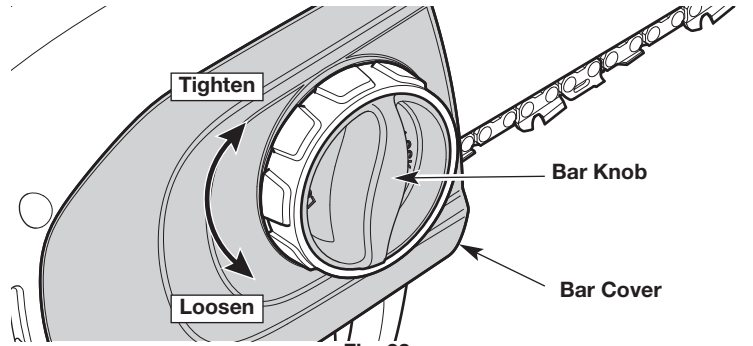
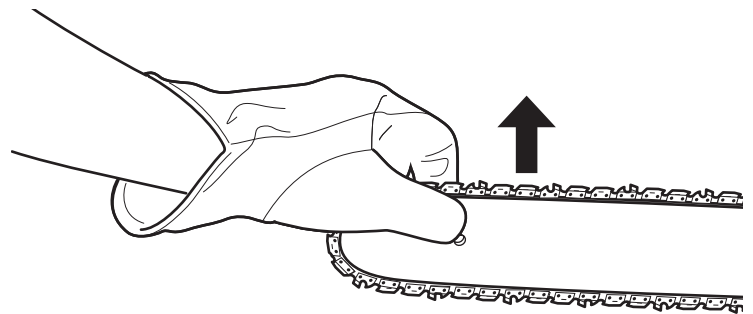
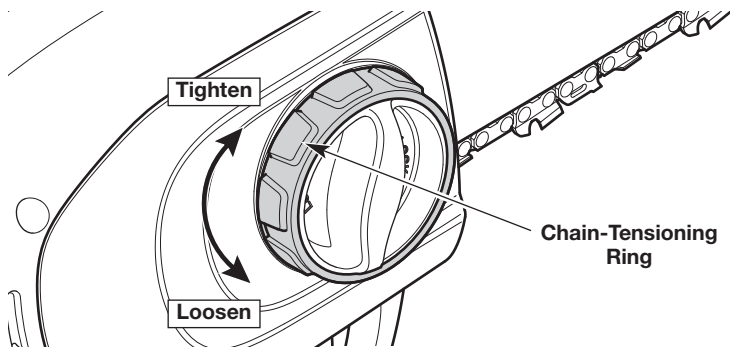
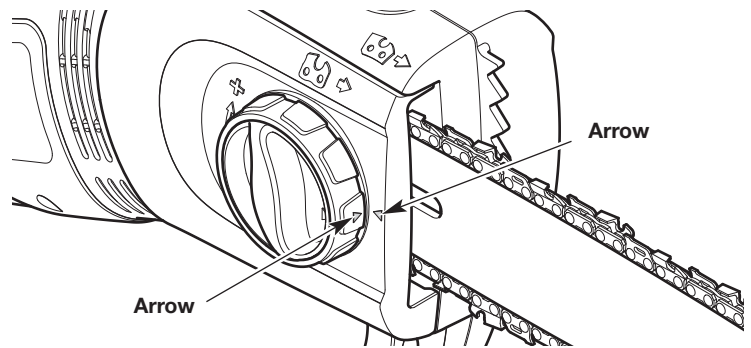

Fig. 28
Fig. 29
Fig. 30
Fig. 35
**NOTE:** A new saw chain tends to stretch and will need readjustment after as few as five (5) cuts. This is normal during the break-in period. The interval between future adjustments will lengthen quickly.
1. Turn the bar knob counterclockwise to slightly loosen the bar cover (Fig. 28). **DO NOT** remove the bar cover.
2. Hold the guide bar tip up (Fig. 29) and turn the chain-tensioning ring to adjust the tension (Fig. 30).
3. Continue to hold the guide bar tip up (Fig. 29). Turn the bar knob clockwise to securely tighten the bar cover (Fig. 28).
1. Turn the bar knob counterclockwise to loosen the bar cover (Fig. 28).
5. Turn the chain-tensioning ring (Fig. 30) until the arrow on the chain-tensioning ring aligns with the arrow on the bar cover (Fig. 35).
7. Turn the chain-tensioning ring (Fig. 30) clockwise until the bar cover is connected to the motor housing and the guide bar begins to move forward.
8. Turn the bar knob clockwise to tighten the bar cover (Fig. 28). **DO NOT** tighten the bar knob completely.
10. Hold the guide bar tip up (Fig. 29). Turn the bar knob clockwise to securely tighten the bar cover (Fig. 28).